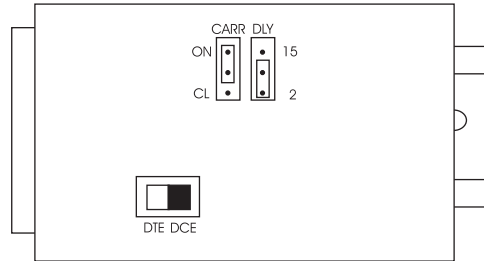

Figure 1. FOM-6AV Jumper Locations
2. Set the jumpers according to *Figure 1* and *Table 1*.